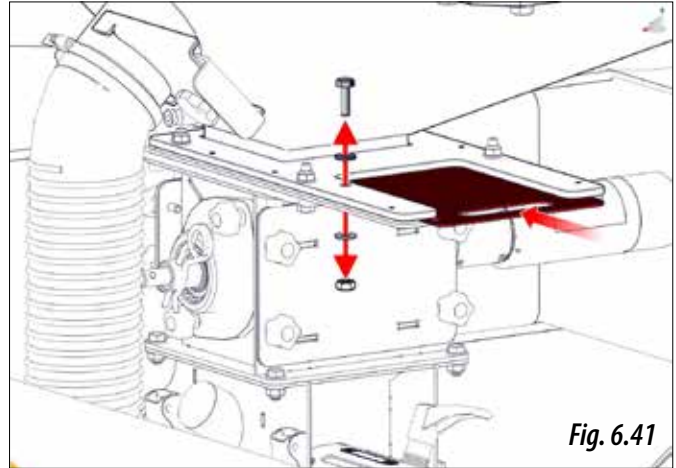

Fig. 6.41
- 2- Close the dispensers' guillotine door, removing a bolt that fixes the door's position (Fig. 6.41).